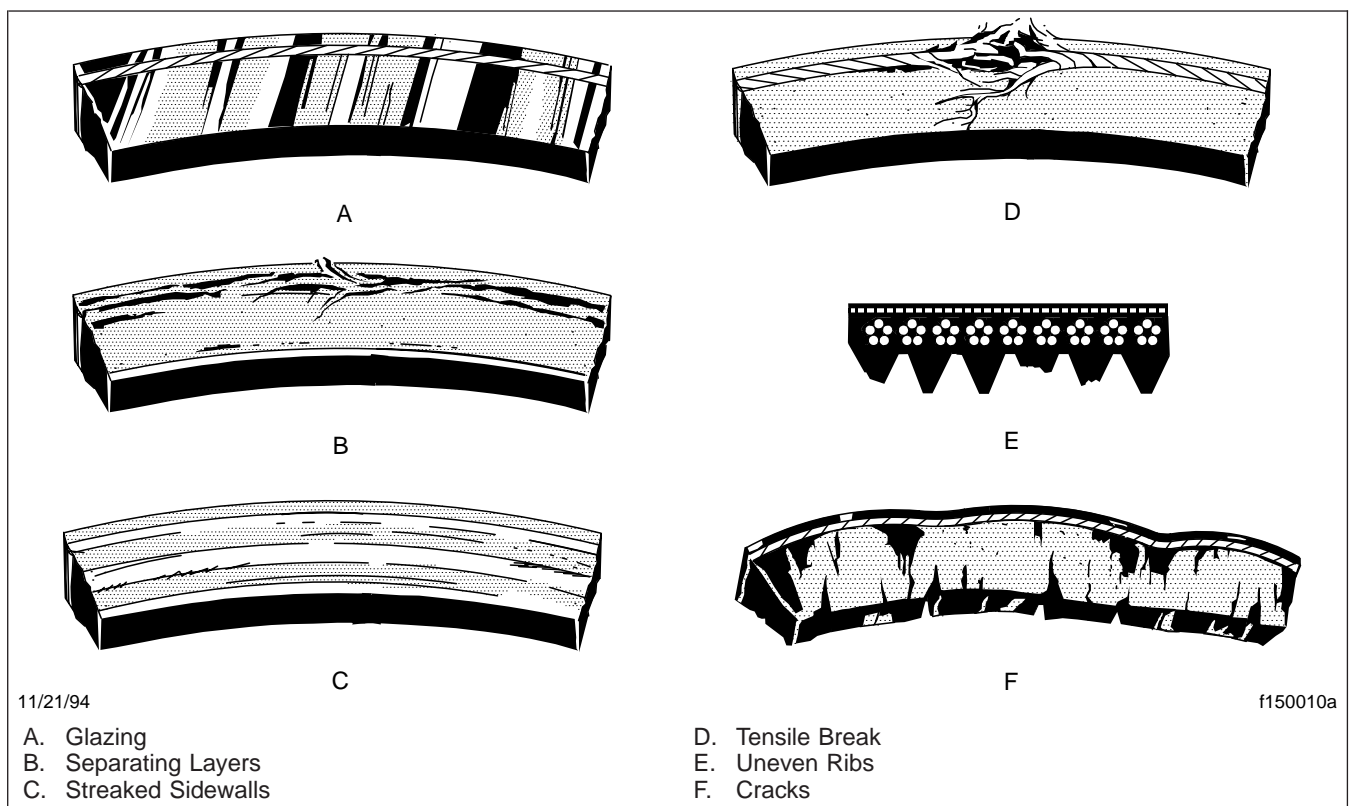

Fig. 4, Drive Belt Replacement Conditions
2. Check the belt for ply separation. See **Fig. 4**, Ref. B. Oil, grease, or belt dressing can cause the belt to fall apart in layers. Repair any oil or coolant leaks that are affecting the belts before replacing the drive belts. Do not use belt dressing on any belt.
3. Check the belt for a jagged or streaked sidewall. See **Fig. 4**, Ref. C. Jagged or streaked sidewalls are the result of foreign objects, such as sand or gravel in the pulley, or a rough pulley surface.
4. Check for tensile breaks; breaks in the cord body. See **Fig. 4**, Ref. D. Cuts in a belt are usually caused by foreign objects in the pulley, or by prying or forcing the belt during removal or installation.
5. Check for uneven ribs on serpentine (poly-V) belts. See **Fig. 4**, Ref. E. Foreign objects in the pulley will erode the undercord ribs, causing the belt to lose its gripping power.
6. Check the drive belts for cracks. See **Fig. 4**, Ref. F. Small irregular cracks are usually the signs of an old belt.